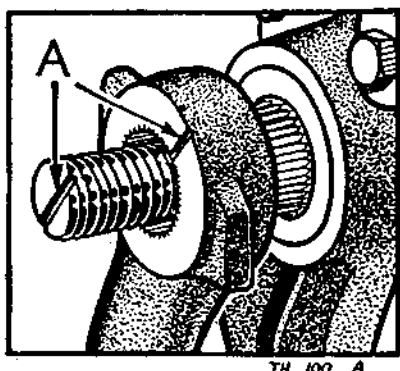

Fig. 4.
2. Screw down the nuts on side cover and, with steering wheel again temporarily refitted, turn to full nearside lock and replace steering arm, noting the correct spline fitting (see Fig. 4). Tighten nut and refit split cotter.